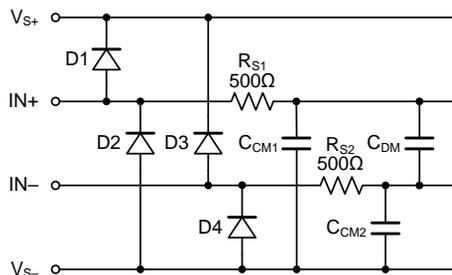

Figure 1. Input EMI Filter and Clamp Circuit
Figure 1 shows the input EMI filter and clamp circuit. The LTC8705/8706/8707/8708 comparators have internal ESD protection diodes (D1, D2, D3, and D4) that are connected between the inputs and each supply rail. These diodes protect the input transistors
Infrared (IR) communication is inherently immune to RF interference as long as there is a line-of-sight path between the transmitter and the receiver. It is also one of the lowest cost communication schemes. This makes it a good choice for implementing wireless communications in applications such as utility metering. A common system topology to extend battery life is to use a power efficient IR receiver analog front end (AFE) that is always on and wakes up the host only when there is a valid IR signal detected as shown in Figure 1.
Figure 1 shows the IR receiver system block diagram. The host MCU is normally in the shutdown mode (during which the quiescent current is less than 1 μ A) except when data is being transferred.